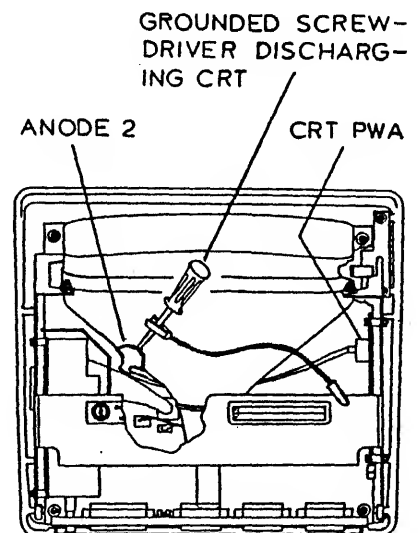

Figure 3-2 DISCHARGE CRT
3. Discharge high voltage on CRT (anode 2) shorting to frame. This is done by using meter lead, alligator clip, and screw driver as shown in fig. 3-2.
4. Discharge high voltage on CRT (anode shorting to frame. (fig. 3-2))
6. If 820/820-II then remove (2) attaching support block for Daughter PWA. Remove Daughter PWA from processor.
7. Remove (4) screws from the processor and remove by sliding out of the processor.